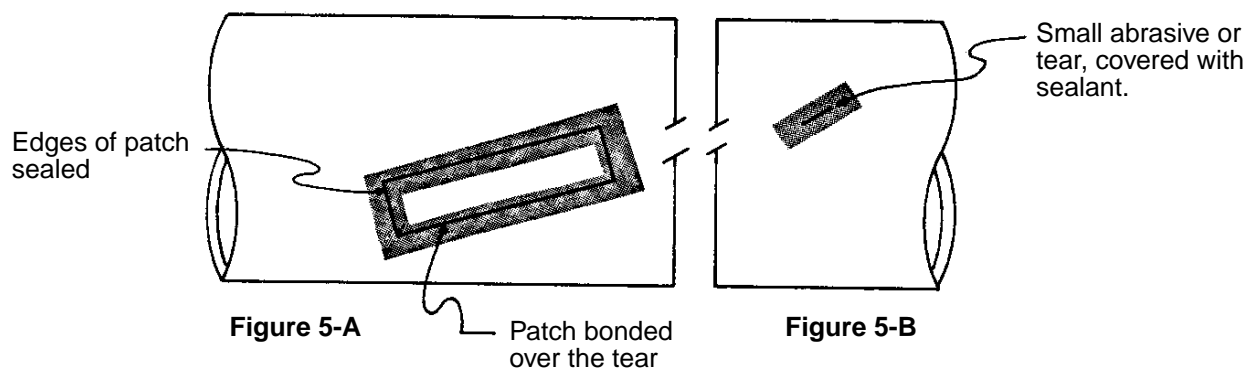

FIGURE 5 - SEALING OF REPAIRED COVERS
- Step 7. Seal the edges of the patch to the cover with a 1/2" wide strip of RTV 732 sealant overlapping approximately equally onto the cover and patch as shown in Figure 5-A.
- Step 2. Using a suitable spatula, apply a uniform coat of RTV 732 sealant to the cover to overlap at least 1/2" on all sides of the damaged area as shown in Figure 5-B.